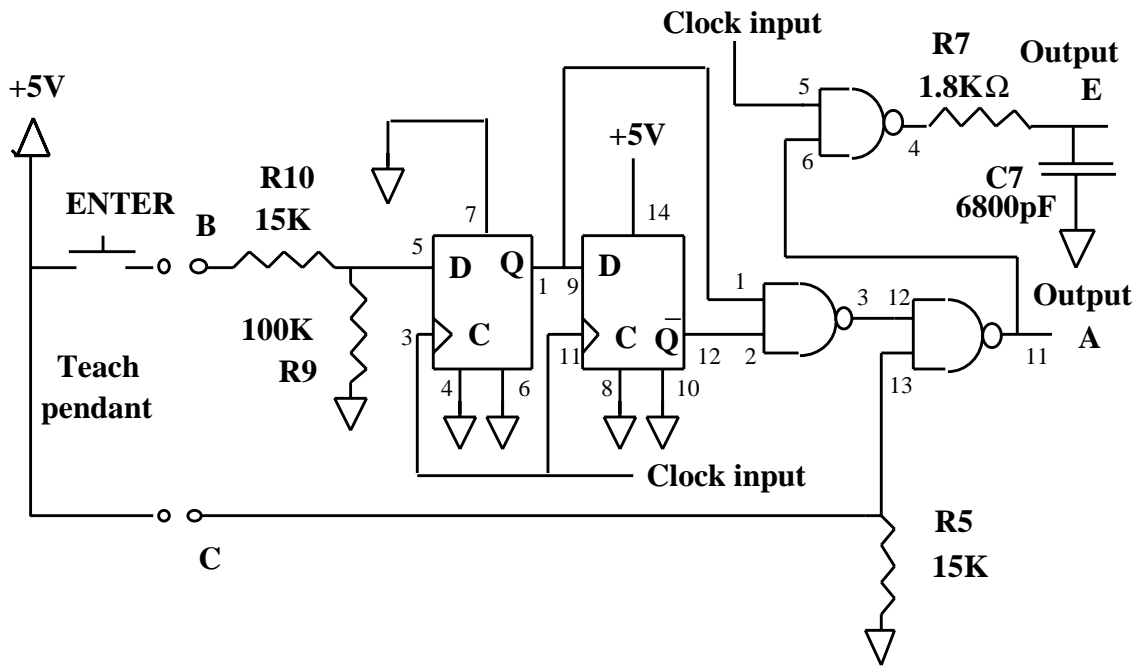
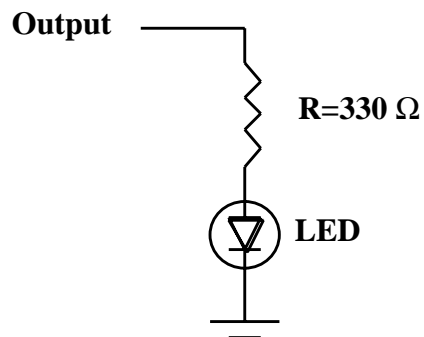

Figure 11.2 Enter Key Detector.
Figure 11.4 Using an LED to construct a digital signal indicator.
zero, unless you push ENTER, in which case the output will be a 1 for one clock period, allowing the counter to increment once. It will then return to zero, where it waits for the next ENTER command. The enter key detector is shown in Fig. 11.2. The clock signal comes from the robot master clock. If the teach pendant is not plugged in, then point C stays at 0V, the right NAND has a zero input, and the output of the circuit at A is a logical 1 (5V). If the teach pendant is plugged in, then point C is pulled up to 5V, and the output of the right NAND, A, is the logical opposite of the output of left NAND. This means that A is a 1 only if both inputs to the left NAND are a 1. This only happens when a 1 has come out of the first flip flop, but has not entered the second flip flop yet. As a result, the output of the circuit is a 1 for exactly one clock period after the ENTER button is pressed. A 1 does not appear at the output of left NAND again until the ENTER button is released and pressed again.
The counter clock is driven by E in Fig. 11.2. This uses the output, A, from the enter key detector, and the robot's clock in order to control the counter. Whenever the teach pendant is unplugged, A is high so the robot clock is fed through the NAND gate to E. This means that the output of the NAND gate is the opposite of the clock signal at any point in time. As we saw previously, the RC circuit with R7 and C7 will simply delay the rising and falling edges of the
1. Test both of the flip flops in the 4013. Wire the two clock inputs together, the D inputs together, the set inputs together, and the reset inputs together. Simulate the data input by wiring the D input (Pin 5 or 9) to either ground or +5V. That is, to make a logic 0, connect the pin to ground. To make a logic 1, connect the pin to 5V. **Connect the set and reset pins to ground.** Connect the power and ground pins to +5V and 0V respectively. Construct four LED indicator circuits as shown in Fig. 11.4. Note, you may use 1K resistors in place of the 330Ω resistors shown in the figure. Connect one to the Q output of the flip flop you are testing and one to the \bar{Q} output, connect the third one to the D input, and the last one to the clock input. Adjust your function generator to provide a 0V to 5V square wave at a frequency of 1.0Hz (one pulse every second). Connect the function generator ground to circuit ground and the function generator signal to the clock inputs of the D flip flop (Pin 3 and 11). By moving the wire between +5V and ground, set the D input high or low. Check that the Q output responds.
2. Build the circuit of Fig. 11.2 on your protoboard. Note, only pins 2 and 13 of the 4013 should remain unused. Simulate the teach pendant by connecting two wires, one from each of the round bubbles on Fig. 11.2 to either +5V or open (disconnected). Once again, use the function generator as set up in step 1 for the clock
input. Attach an LED and resistor as shown in Fig. 11.4 to output A in Fig. 11.2. Check the A output first with both wires open.